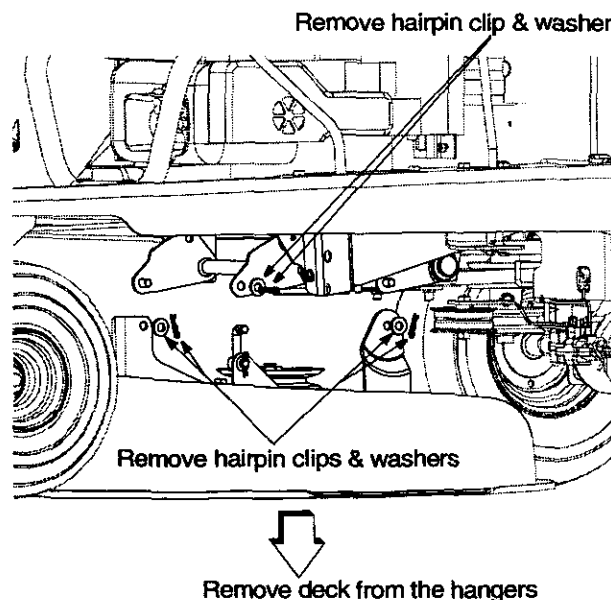

Figure 10
4. Remove all three hairpin clips and flat washers that secure the cutting deck to the hanger links. See Figure 10 .